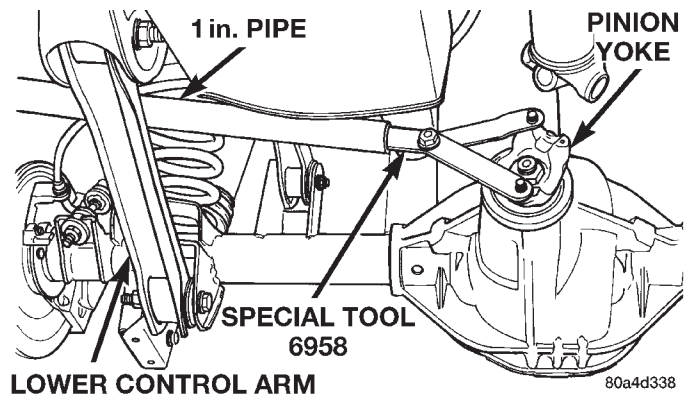

Fig. 9 Pinion Yoke Holder
(8) Using a short piece of pipe and Holder 6958 to hold the pinion yoke, remove the pinion nut and washer (Fig. 9).